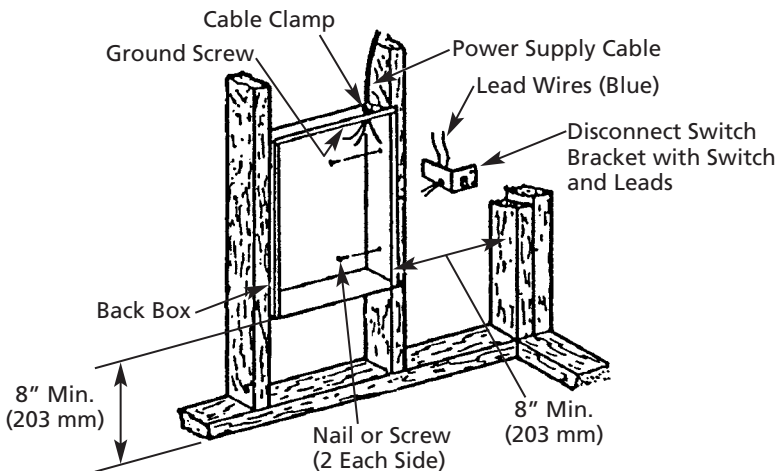

**Figure 3 – Locating Back Box in Existing Construction**
1. Provide a wall opening 14 1/2" (362 mm) wide by 18 1/2" (470 mm) high at the desired mounting height, but no closer than 8" (203 mm) from floor (see Figure 3).